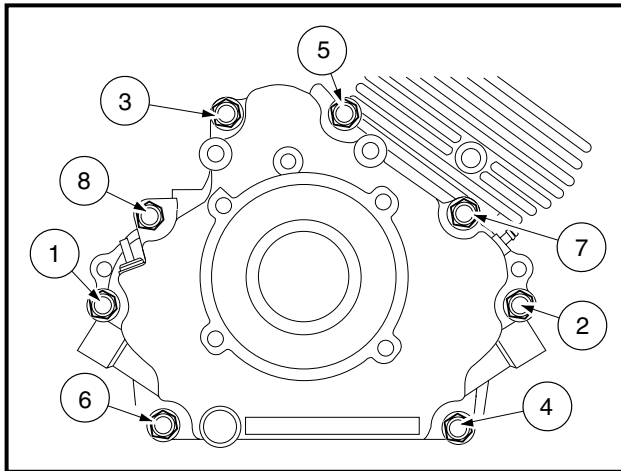

Figure 13-9 Crankcase Cover Installation
3. Install and finger tighten evenly the eight cover mounting bolts (**Figure 13-9, Page 13-8**).